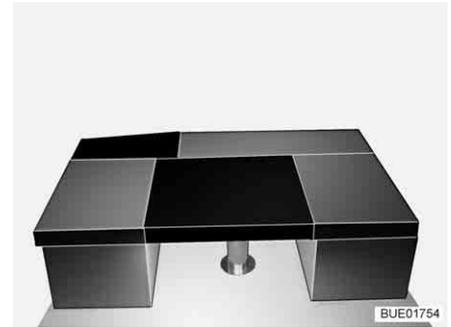

Fig. 120 After conversion
- Place the rectangular additional cushion on the table (in front of the seat cushions of the benches, see Fig. 120).